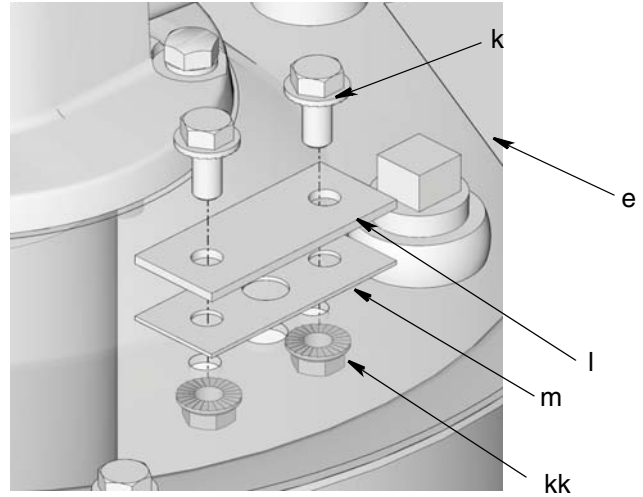

FIG. 7
3. Remove screws (k) and nuts (kk) from accessory cover plate (l) [installed on the pump reservoir cover (e)] (FIG. 7). Remove plate and gasket (m). Discard screws, nuts, plate and gasket, you will not use them again.